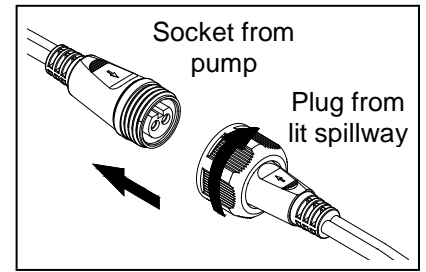

Fig. 6
6. Connect the lit spillway to the pump by pushing the plug into the socket until it is firmly seated. Hand tighten the nut from the plug to the socket. Fig. 6